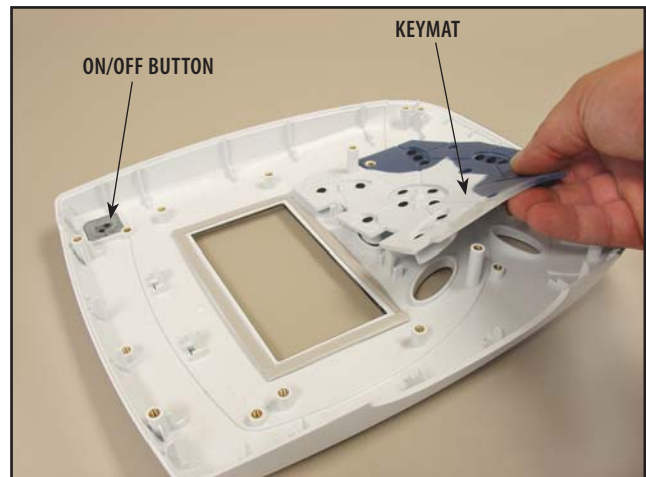

FIGURE 6.24
6. Lift out Keymat Assembly or On/Off Button KeyMat. **See Figure 6.24.**